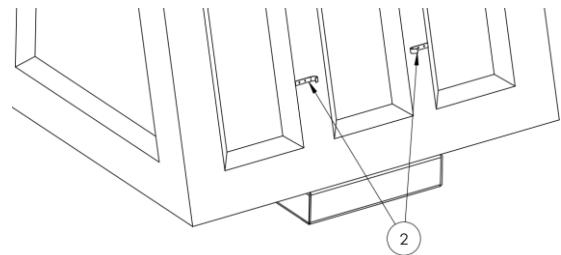

FIGURE 2.3: REAR J-HOOKS
Install a set of J-Hooks (2) on the rear tailgate of each detachable container as needed. J-Hooks should face outward and get installed at least 12 inches apart. See Figure 2.3.